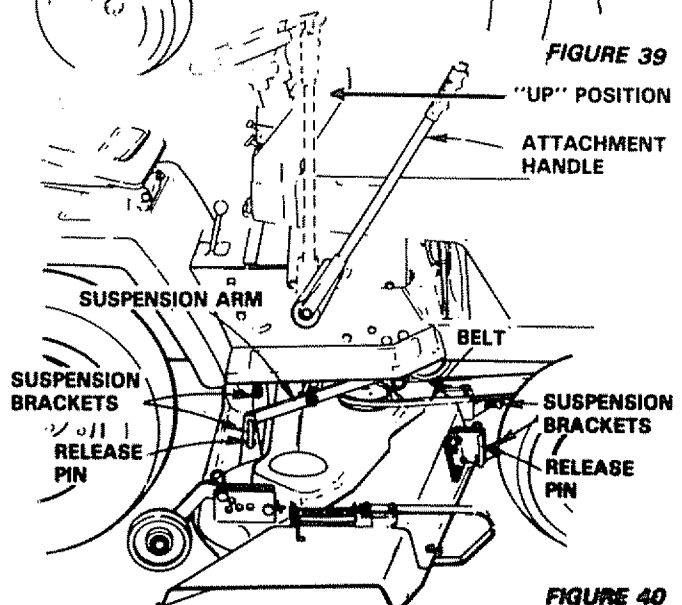

FIGURE 40
- Pull the four (4) release pins out of suspension brackets (Fig. 40).
NOTE: IF AN ATTACHMENT OTHER THAN THE MOWER DECK IS TO BE MOUNTED ON THE TRACTOR, REMOVE THE L.H. AND R.H. SUSPENSION ARMS AND THE FRONT SUSPENSION BRACKET. (FIG. 40)